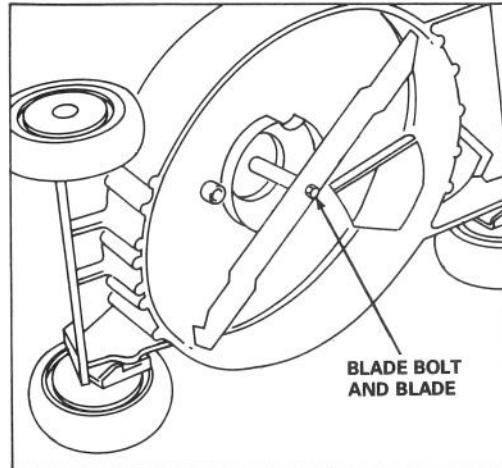

Figure 15
3. Tip mower on its right side (Fig. 15). Avoid rotating blade. Starting problems may result.
5. REMOVING BLADE — Grasp end of blade using a rag or thickly padded glove. Remove blade bolt and blade (Fig. 15).